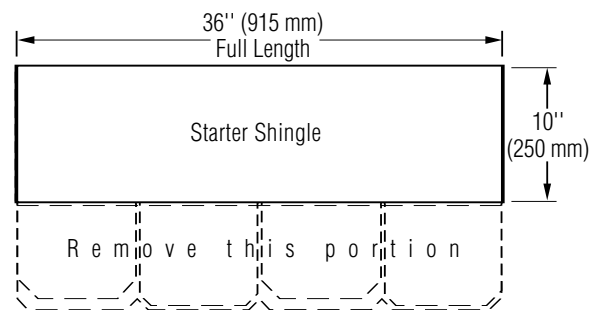

Figure 16-7: Make starter shingles by removing the 8" lower portion.
- When installing Carriage House, the starter course will consist of Carriage House shingles from which the 8" lower portion has been removed. The easiest way to do this is by cutting straight across the length of the shingle just above the top of the cutouts (Figure 16-7).